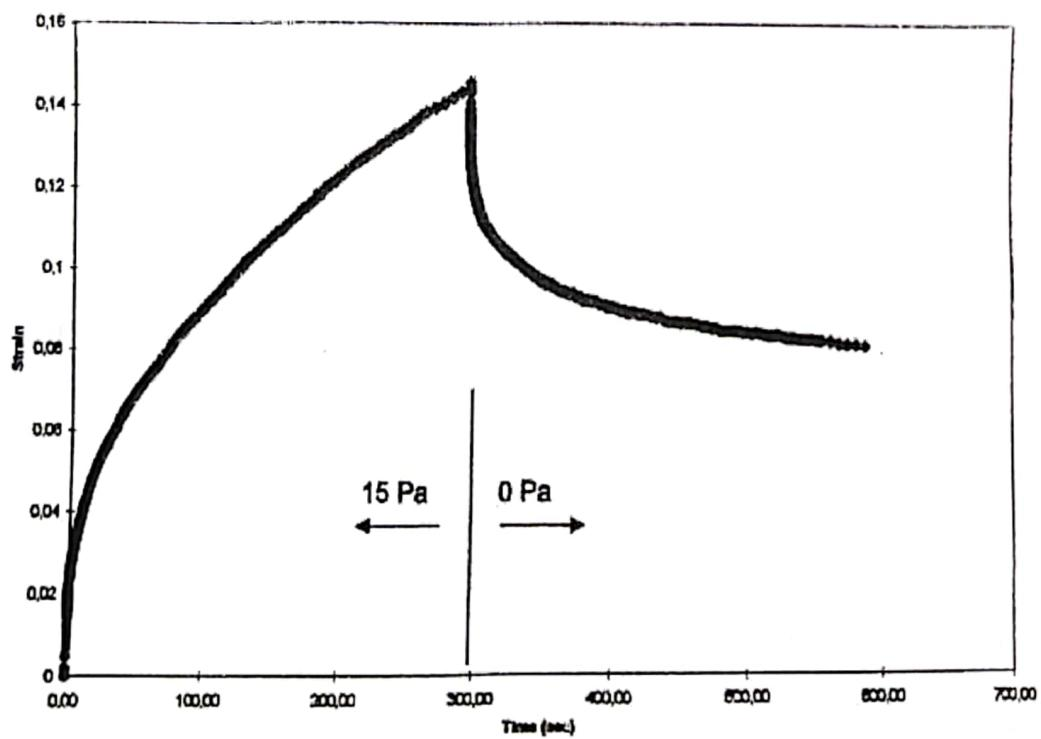

Figure 1. The creep recovery test
4. Calculation. The figure 1 shows results of a creep-recovery test (strain vs. time) for a polymer melt. The test was done in a linear region and the stress was 15 Pa. How are you able to determine if the creep test is done in a linear region? Determine from the figure: the zero viscosity η_0 , the steady-state creep compliance J_s^0 and the steady-state recoverable compliance R_∞^0 . Evaluate what the strain would be at the end of the creep phase, if the stress was 5 Pa.